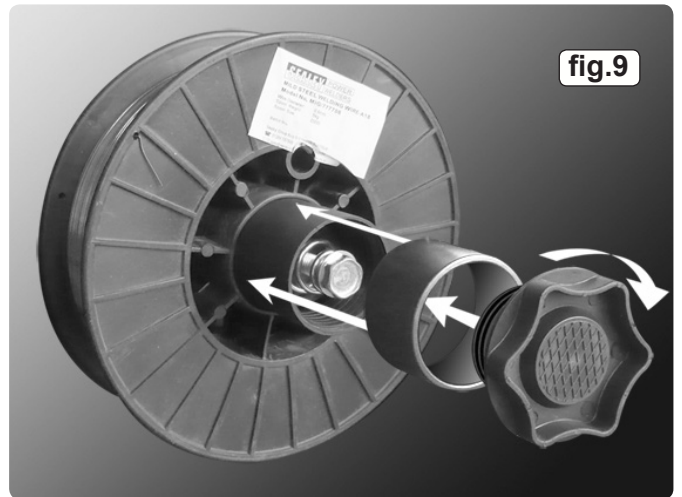
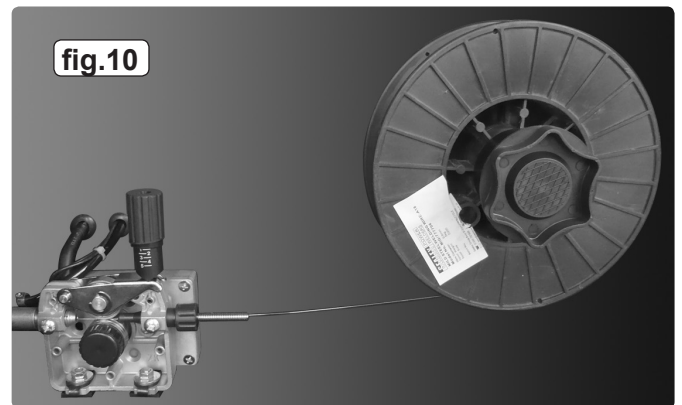

fig.9
fig.10
- 3.8.1.** Unscrew the locking knob from the end of the spool holder (see fig.7C) and remove the spacer. Slide the reel of wire onto the spool holder and ensure that the clutch pin at the back of the spool holder (E) engages into the guide hole in the wire reel moulding. This will prevent the wire reel from freewheeling on the spool holder. Slide the spacer onto the spool holder and retain it by screwing the knob into place as shown above in fig.9. Ensure that the wire is coming off the bottom of the reel in the direction of the wire drive unit as shown in fig.10.